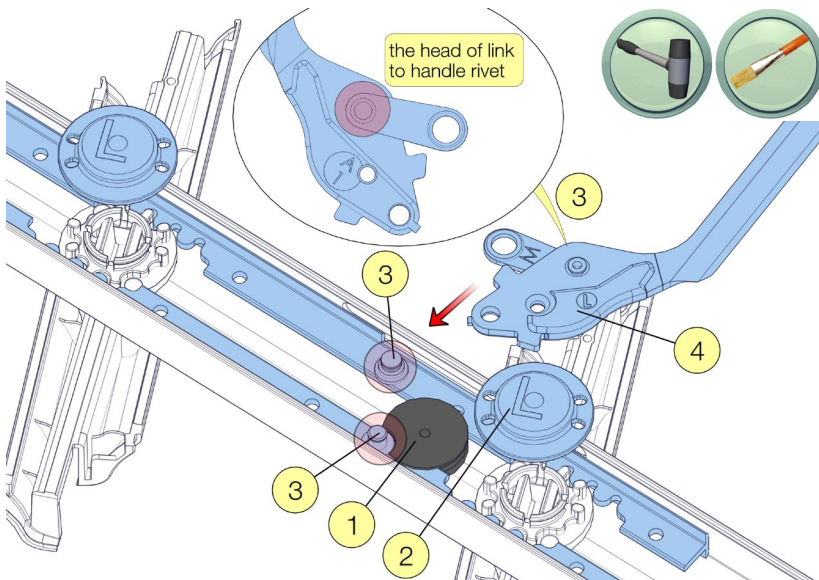

Fig. 23.4.1.4.4-1.3
**Note:** If metal handle MK1 is replaced with metal handle MK2.5, the Op bars must have A600 and A700 rivets. Metal handle MK2.5 is not compatible with A100 and A300 rivets. *Refer to Figure 23.4.1.4.3-1.3.*